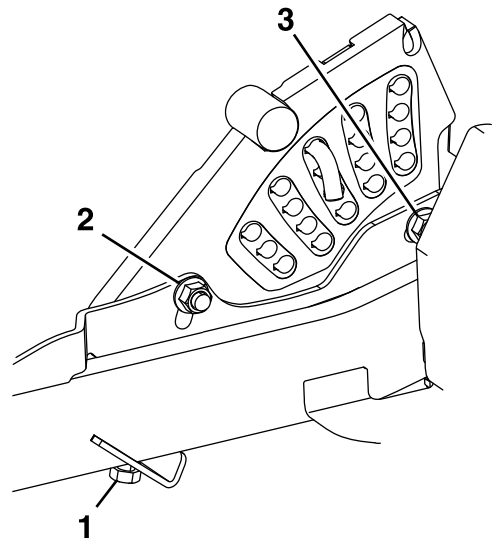

Figure 85
13. If the 4 deck adjusters do not have enough adjustment to achieve the accurate height of cut with the desired rake, you can adjust the single-point system (Figure 85).
14. To adjust the single-point system, first loosen the front and rear height-of-cut plate mounting bolts (Figure 85).
16. Tighten the 2 bolts at the bottom of the height-of-cut plate (Figure 85).